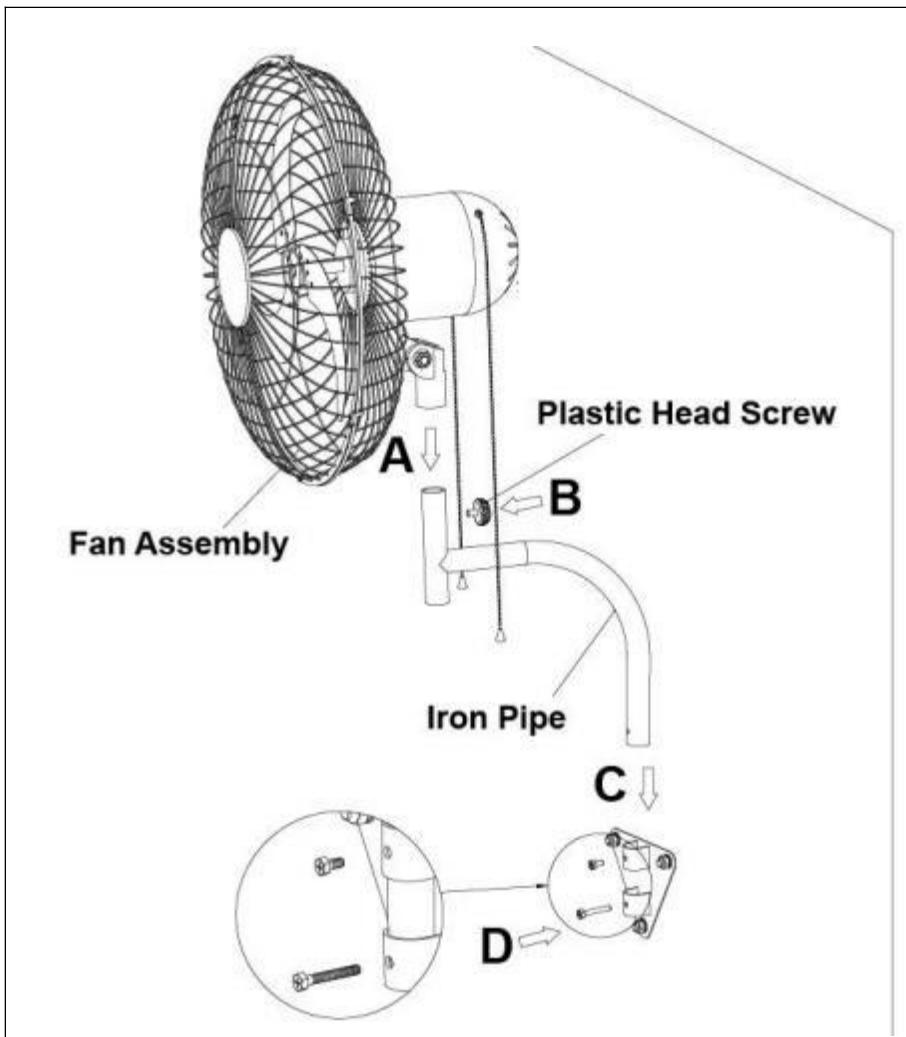

Fig.8.
- 1). Install the fan head on the Iron pipe, then lock the Plastic Head Screw(9).As shown in Fig.8. - A.B.
- 2). Install the fan body on the wall panel(2), and then lock the bracket screws1(4) and the bracket screws2 (5). Note, that the screw holes on the bracket should correspond to the screw holes on the wall hanging panel.As shown in Fig8, C.D.